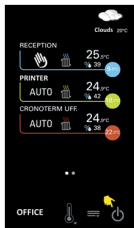

Fig.70
13.1.1 From the main screen, press  to turn Off all devices; Fig.70